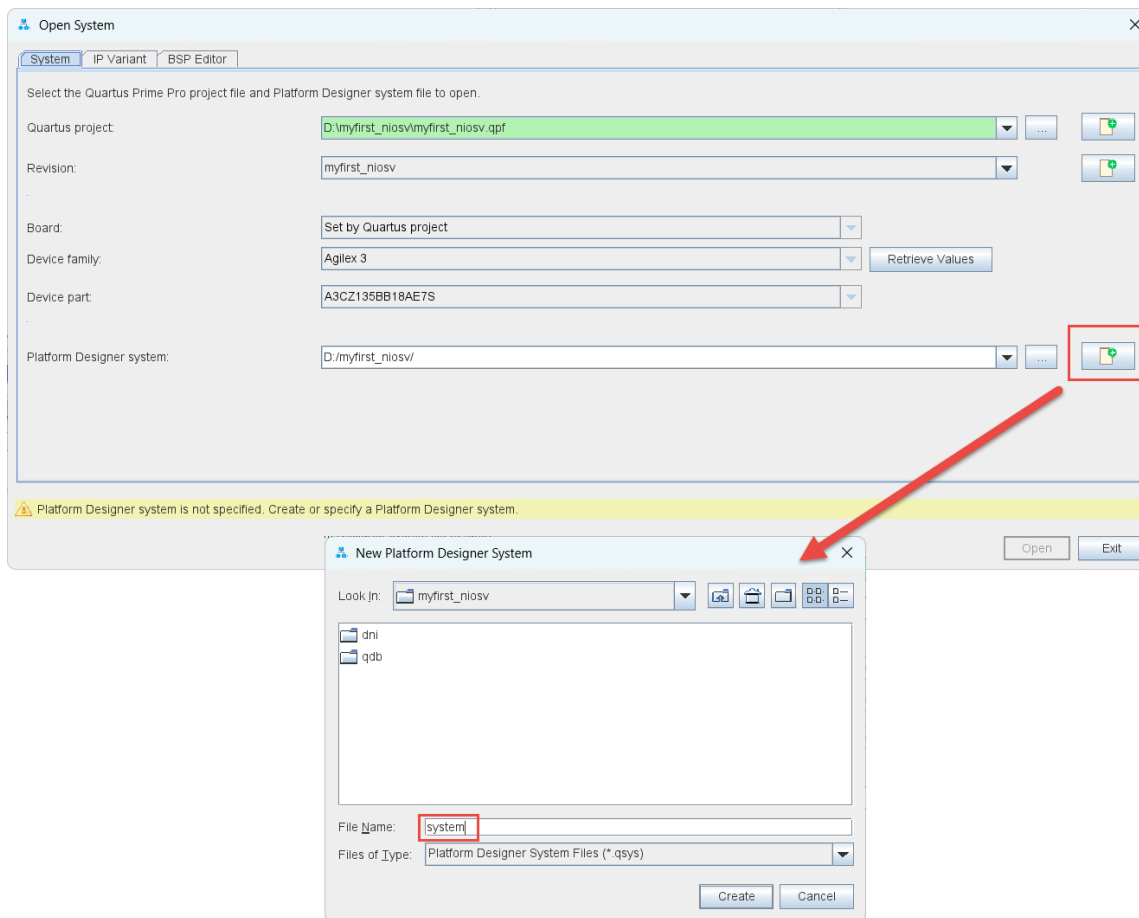

Figure 2-6 Create New System [1]
2. Click the Create New Platform Designer System icon and name the new project system "**system**" (refer to Figure 2-6).